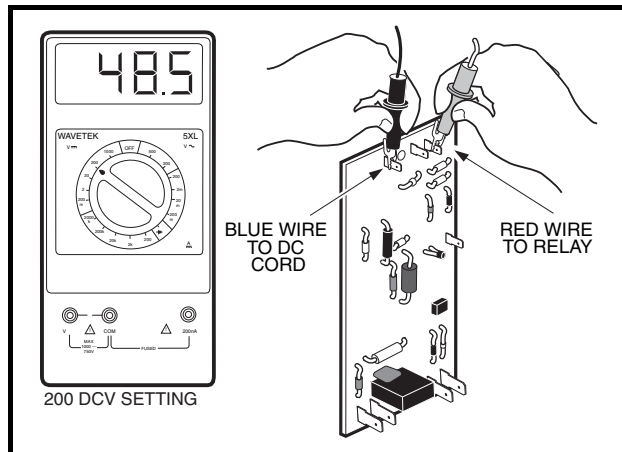

Figure 4-9 DC Circuit Test
- Place black (–) probe of multimeter on terminal with blue DC cord wire and red (+) probe to terminal with red relay wire (**Figure 4-9, Page 4-12**).